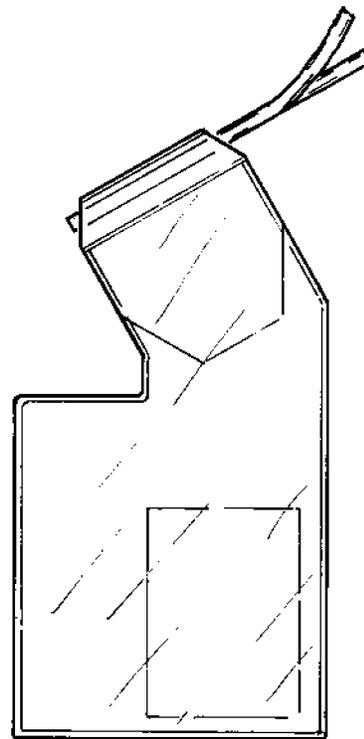

Figure 9-45. Relief Bag
1. Relief Bag. This relief system is a polyethylene bag (MIL-B-83665, NIIN 00-922-9469) with absorbent sponge. It is intended for full bladder voiding. Use of the bag is explained on the yellow card that is included with the bag (figure 9-45).